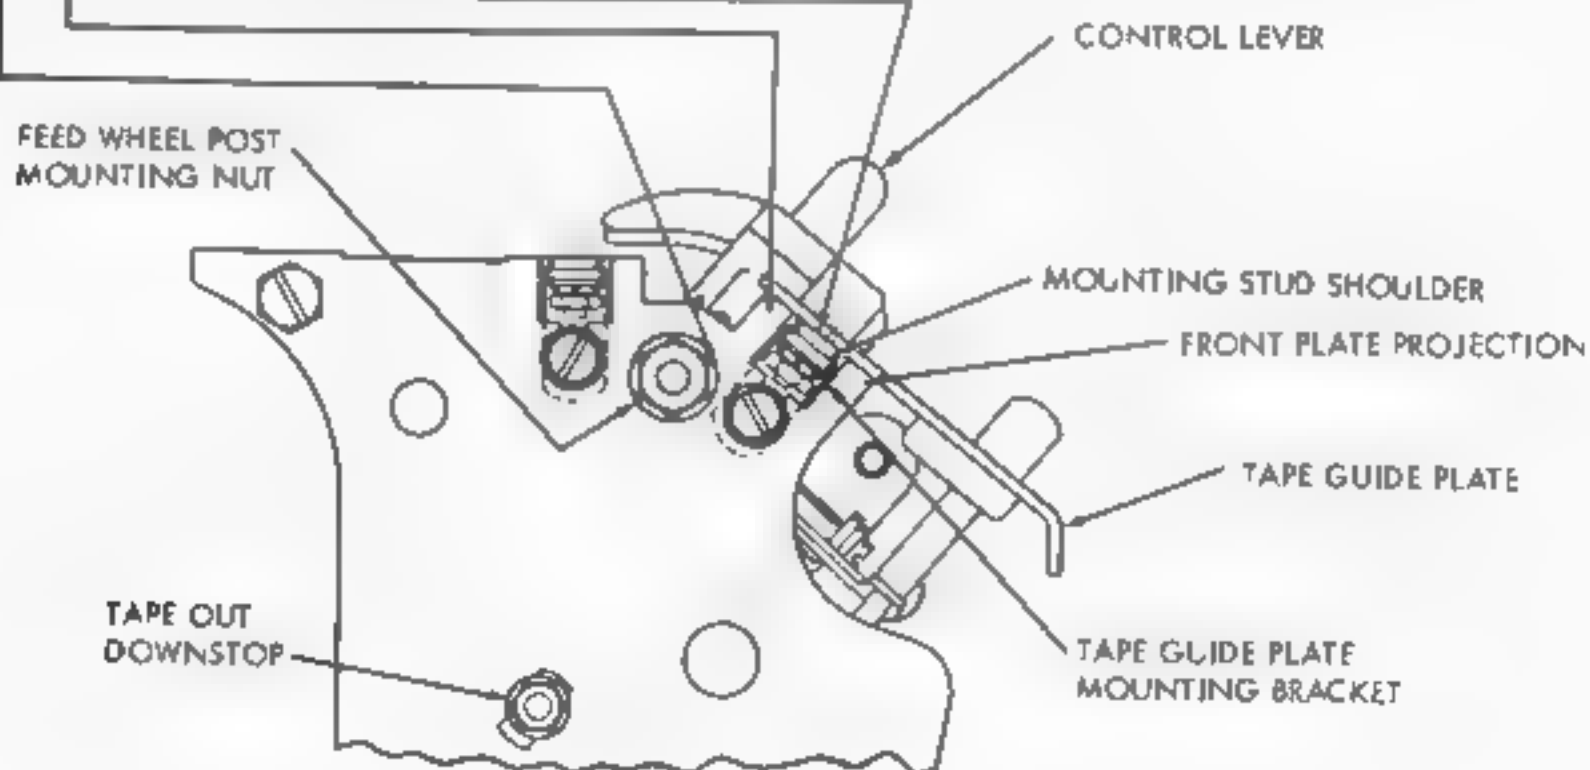

FIGURE 1-18. TAPE GUIDE PLATE
MOVE TOP PLATE TO LINE UP FEED WHEEL SLOT. DO NOT DISTURB REQUIREMENT (2) OF TAPE GUIDE PLATE ADJUSTMENT (SEE FIGURE 1-18).
(3) REQUIREMENT